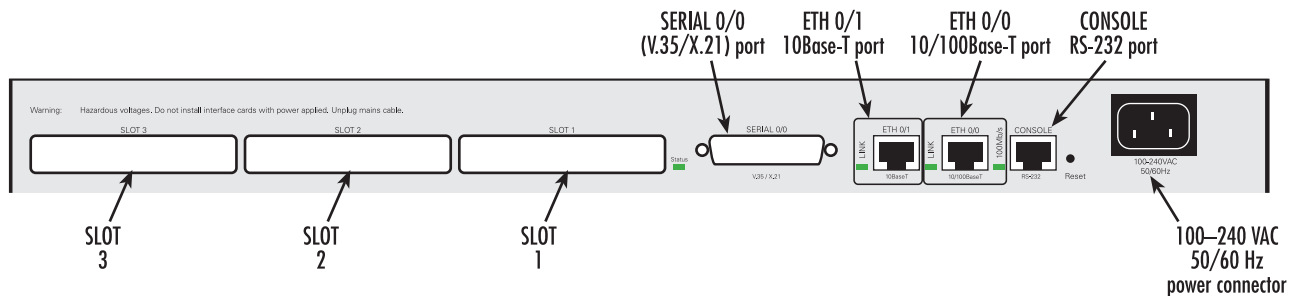

Figure 55. SmartNode 2300 connectors
1. Installing the 10Base-T Ethernet cable into port *ETH 0/1* or 10/100Base-T Ethernet cable into port *ETH 0/0* (see figure 55) (see “Installing the Ethernet cables” on page 95)